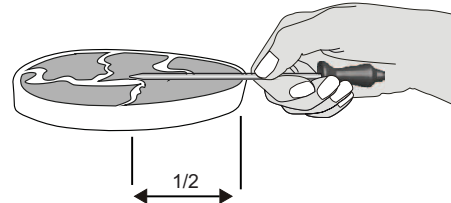

Figure 32: Probe in thickest area of food
- Insert the probe so that the probe tip rests inside the center of the thickest part of meat or food (Figure 32). For best results, do not allow the probe temperature sensor to contact bone, fat, gristle, or the cookware.